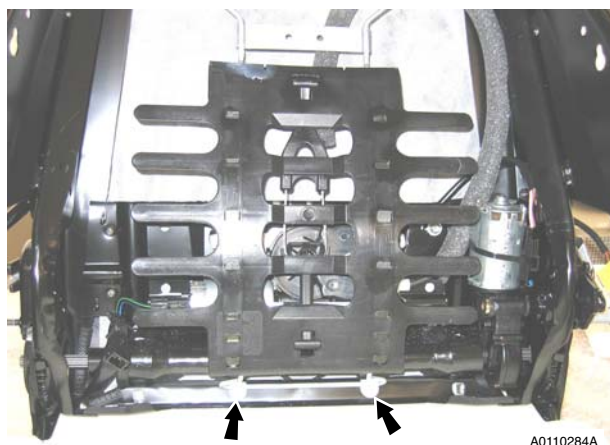

Figure 4
5. Remove lumbar support from seat frame (screws x2) (see Figure 4).